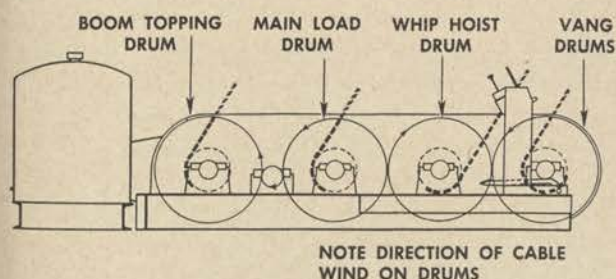

Figure 131. Identification of hoist drums.
a. GENERAL. With barge derrick components completely installed and the main engine and hoist aligned, begin the reeving operation. Normal procedure for handling the coils of cable is to wind the cable (replacement or original) directly from the reel to the pertinent hoist, with the engine rotating the drum at idling speed. Perform this operation carefully, making certain that the cable is so wound that it will lay on the drum in the same manner that it is wound on the reel, and that the end of the cable will come off the side of the drum in the manner illustrated in figure 131. See paragraph 40 for instructions on the correct method of unreeling and uncoiling cables.
- (1) Install cable that raises and lowers the boom (topping).
- (2) Install starboard vang line cable.
- (3) Install port vang line cable.
- (4) Install main load line cable for raising or lowering the block.
- (5) Install the whip line.
c. IDENTIFICATION OF DERRICK REEVING SHEAVES AND HOIST DRUMS. The five drums used on the derrick are identified in figure 131. The forward drum is of twin construction and contains the right and left vang line drums; the next drum winds the whip cable; the third drum is for the main load cable; and the last drum (nearest the engine) is for the boom topping cable.
- (1) All cables coming from the drums through the aperture of the deck house roof pass over the